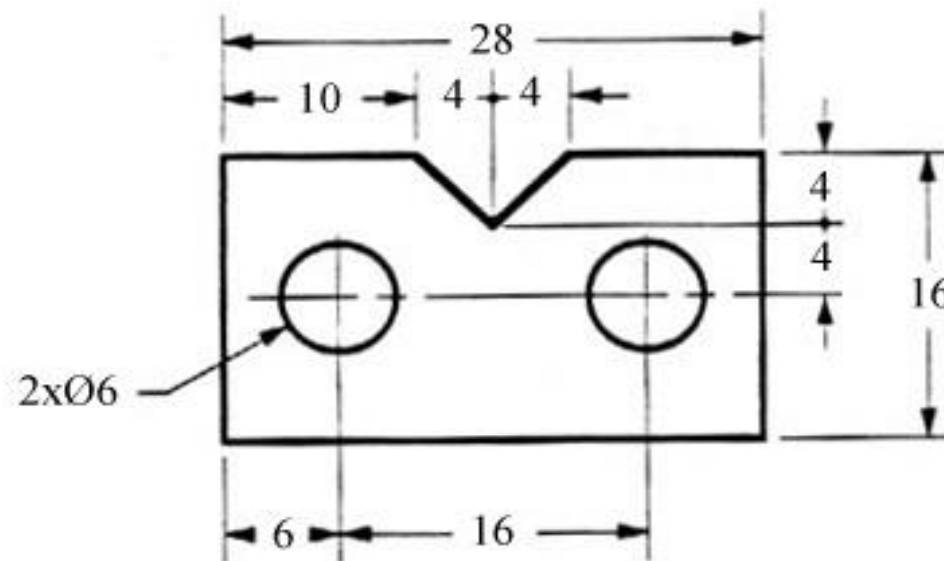

Figure 24 - Example drawing with a leader
- A leader is a thin line used to connect a dimension with a particular area (figure 24).